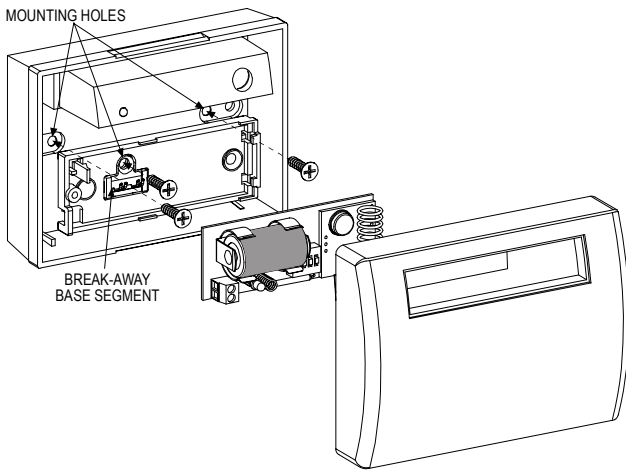

Figure 10. MCT-501 T Internal View
**Attention!** The MCT-501 T has a back tamper switch under the PCB. As long as the PCB is seated firmly within the base, the switch lever will be pressed against a special break-away base segment that is loosely connected to the base (Figure 10). Be sure to fasten the break-away segment to the wall. If the detector unit is forcibly removed from the wall, this segment will break away from the base, causing the tamper switch to open!